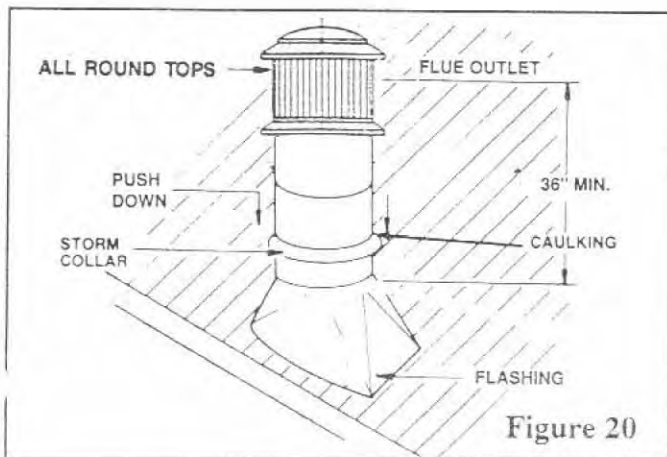

Figure 20
STEP 9: Install storm collar on the chimney and push down near the top of the flashing. Apply waterproof caulking around the top of the storm collar (Figure 20). **NOTE: THIS IS AN IMPORTANT STEP TO ENSURE A WATERTIGHT SYSTEM.**